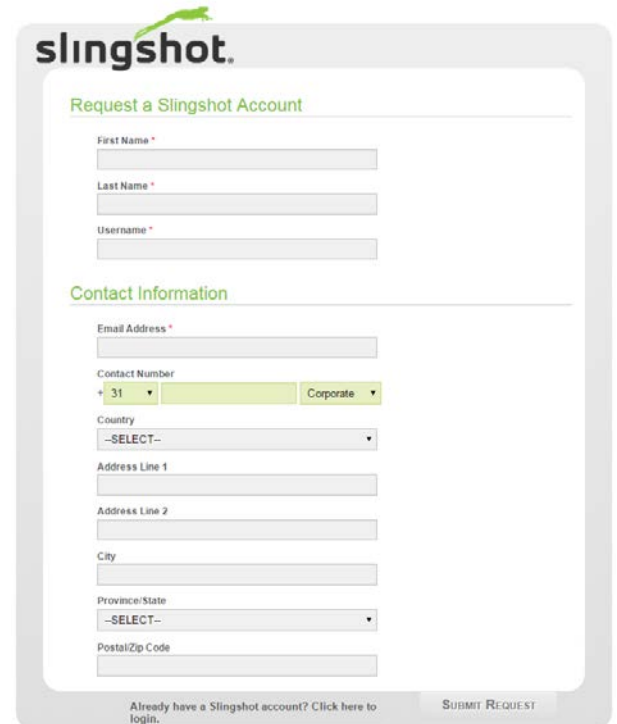

Figure 1 Request Slingshot account
2. Login with username and password. When you don't have an account, create one by using *Request Account* (Figure 1). To make sure the account has the right permissions, please contact SBG.